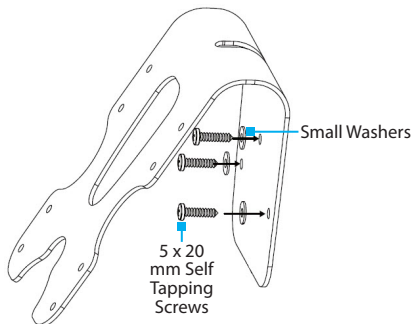

Figure 10
6. Insert the **Screw Assemblies** (x 3) through the **Angled Bracket** and into the **Wall** and tighten, using a **Phillips Head Screwdriver**. (Figure 10)